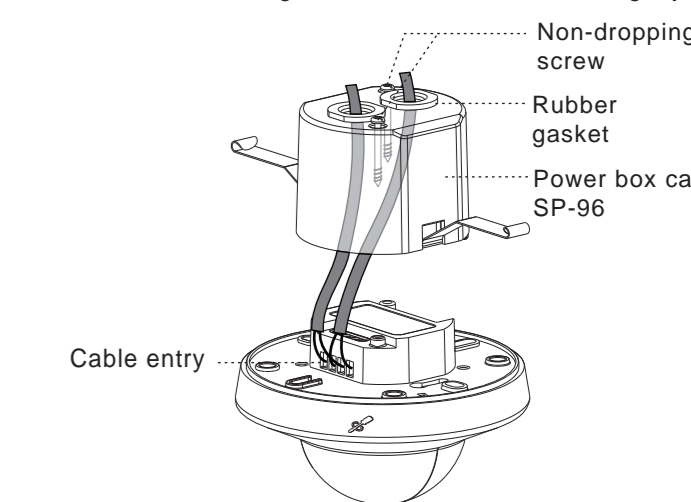

FIG.15
- 3.4.2.2 Use screwdriver to break the rubber gasket on SP-96, then feed cables through it (See FIG.15).